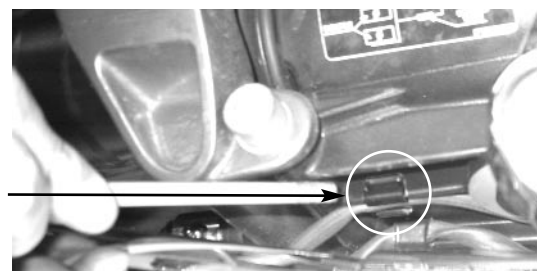

Figure 14
9. Be certain wire of Lambda Sensor is positioned back into the stock clip. Figure 14.